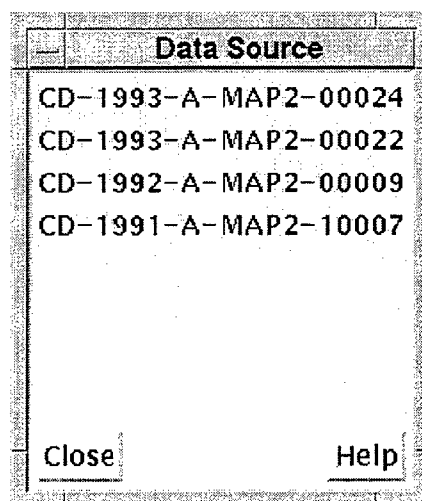

Fig. 72 — Data sources display
This display lists all logged data sources for the current composition, including DTED (for MPS compositions only), CAC, and scanned chart data (Fig. 72). As the user defines new coverages, this display will reflect any new logged sources that are applicable.
- MMC will pop up a **Data Sources Window** (Fig. 72) listing which data sources are needed {CD-1995-C-MAP3-10001 and CD-1996-B-MAP3-2003}.